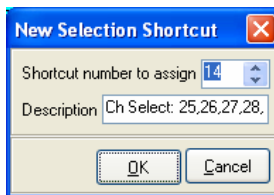

Figure 49: Assign Shortcut Number
3. The dialog in Figure 49 will prompt you to enter the shortcut number you would like to assign to the current state.